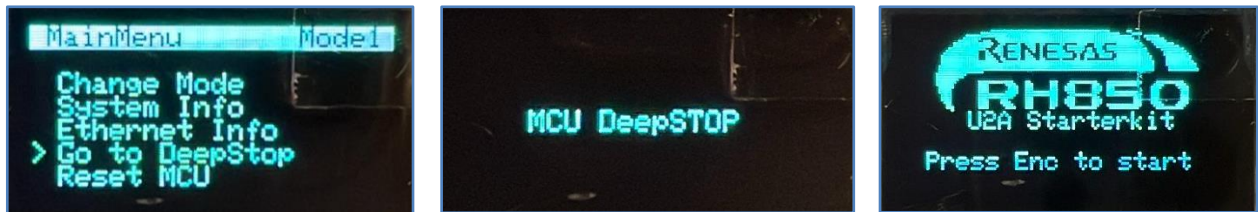

Figure 26 Go to DeepStop
- Move the pointer to “Go to DeepStop” and press the encoder button to enter the Microcontroller Unit (MCU) DeepSTOP mode. Please note that the user LEDs and circular LEDs will go OFF and the display will show the status of the MCU. To wake up from this state, please press either the “encoder button” or “SW17 INT”. The illustration is shown in *Figure 26 Go to DeepStop*.